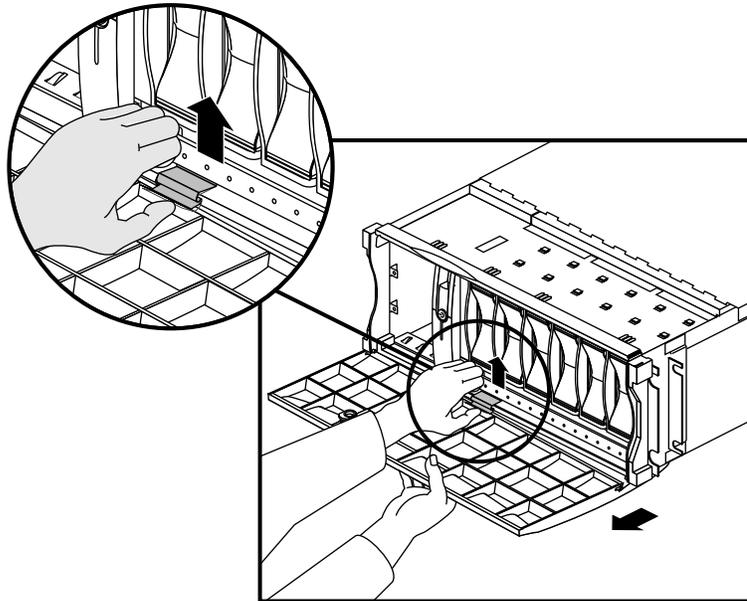

Figure 2-16 Removing the Front Door, Rackmount Configuration
- If the system is in a rackmount configuration, lift the door assist tab and pull the door off, as shown in Figure 2-16.